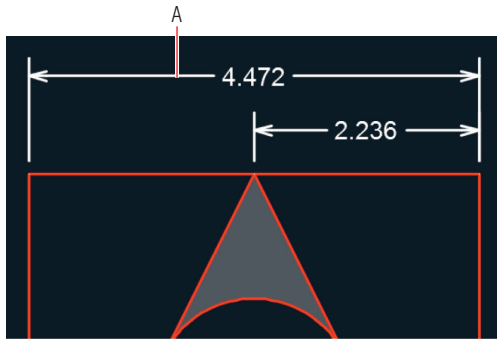

FIGURE 11.13 Creating a linear dimension by selecting an object and its dimension line location
3. Click the top red line and then click point A shown in Figure 11.13. Press Enter to end the `DIM` command.